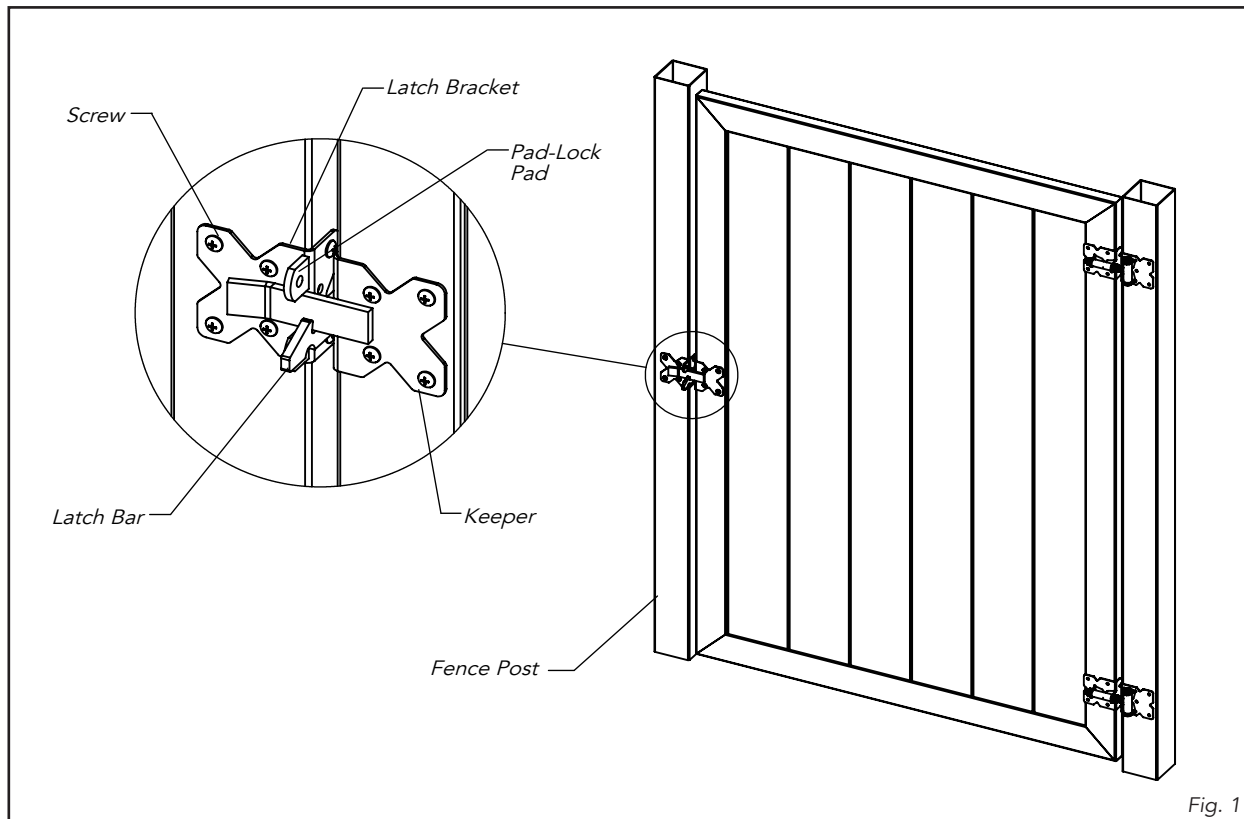

Fig. 1
2. Before installing keeper be aware of gate sagging. With gate in closed position, attach keeper to gate so that keeper bar is centered between pad-lock pads of latch bracket, see (Fig. 1). If necessary use keeper bracket as a template and mark all center points and drill pilot holes for easy installation; otherwise, fasten with mounting screws provided.